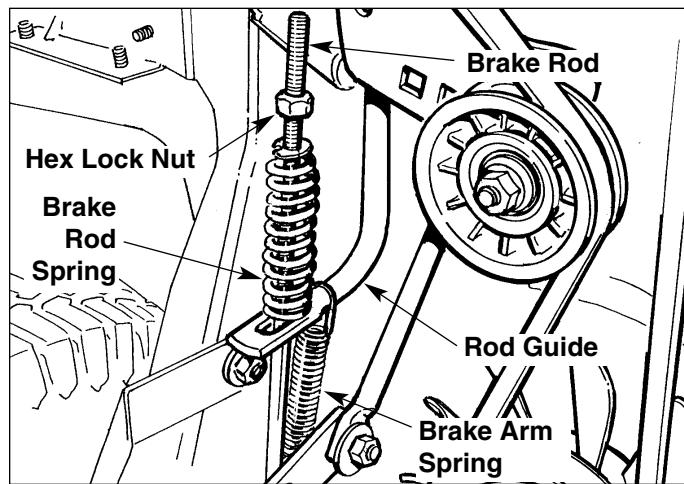

Figure C-27. Rod Guide, Brake Rod, & Springs
2. Slip the brake arm spring off the rear portion of the rod guide (Figure C-27).
3. Remove the hex lock nut from the threaded end of the brake rod (Figure C-27), and remove the spring and rod guide .